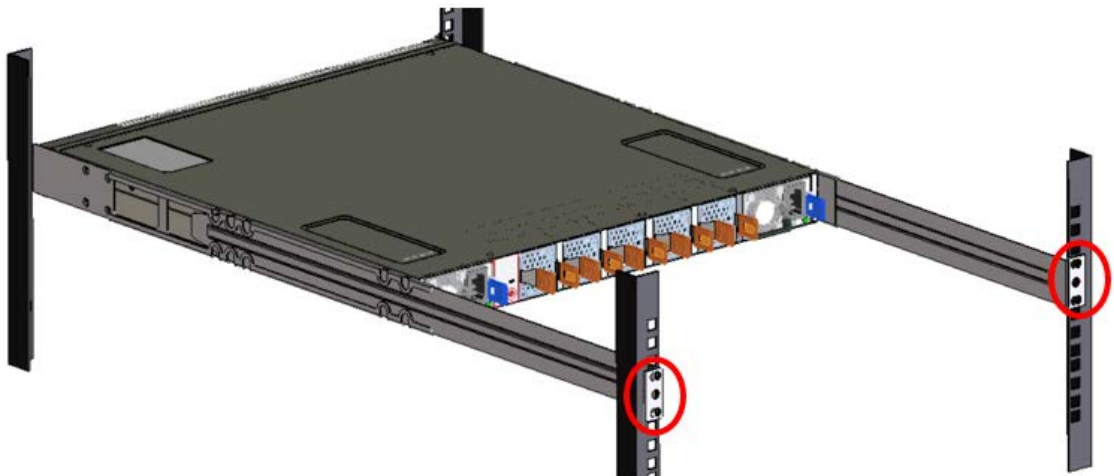

Figure 24. Attaching the Rear Rack Brackets to the Rear Rack Poles
7. Attach the rear rack brackets to the rear rack poles using the thumb screws. See Figure 24.